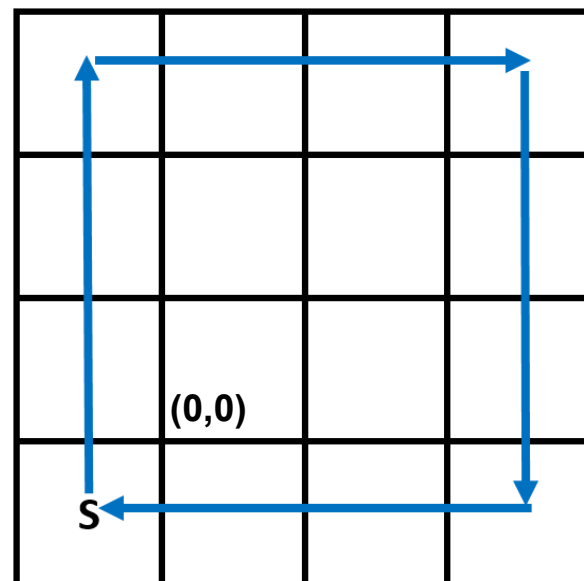

Figure 3. 3-by-3 tile trajectory using `SquareDriver`.
- The zero values for (X, Y) , i.e. $(0,0)$, must respect the convention shown in Figure 3.
The TA will ask you to run your robot off the center of a tile, as shown by **S** in Figure 3. The robot should then follow the 3-by-3 tile square trajectory using `SquareDriver`. Throughout the demo, the TA will observe the reported (**X**, **Y**, **θ**) values on the robot's LCD screen. When the robot stops at the final position (**X_F**, **Y_F**) near **S**, the final readings on the LCD screen (**X**, **Y**, **θ**) are used to evaluate the odometers accuracy and calculate the **error distance ε** as: